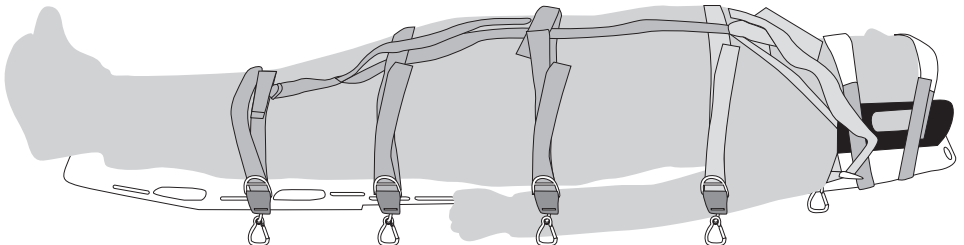

Fig.13
- b) Position the “TAYLAN” belt as shown in fig. 13,